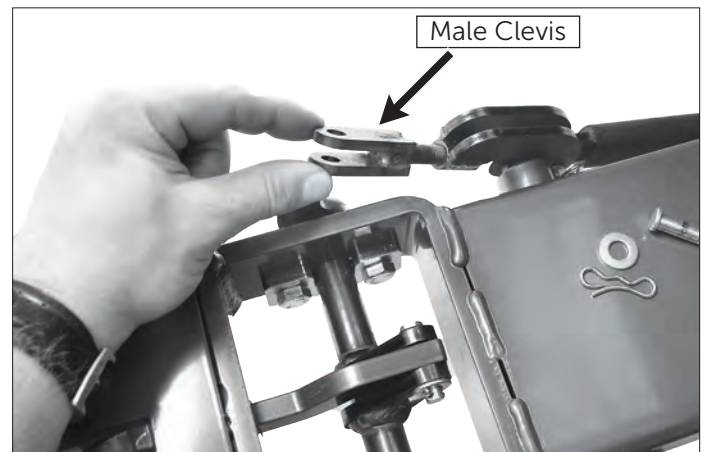

Figure 3.6 Adjusting Lock Tension to Secure Implement
- Adjust the **H19** hitch lock clevis to properly secure the implement. To adjust the tension on the tongue latch, remove the bowtie clip from the clevis pin as shown in figure 3.6, and twist the male clevis clockwise to tighten, or counter-clockwise to loosen, as needed.